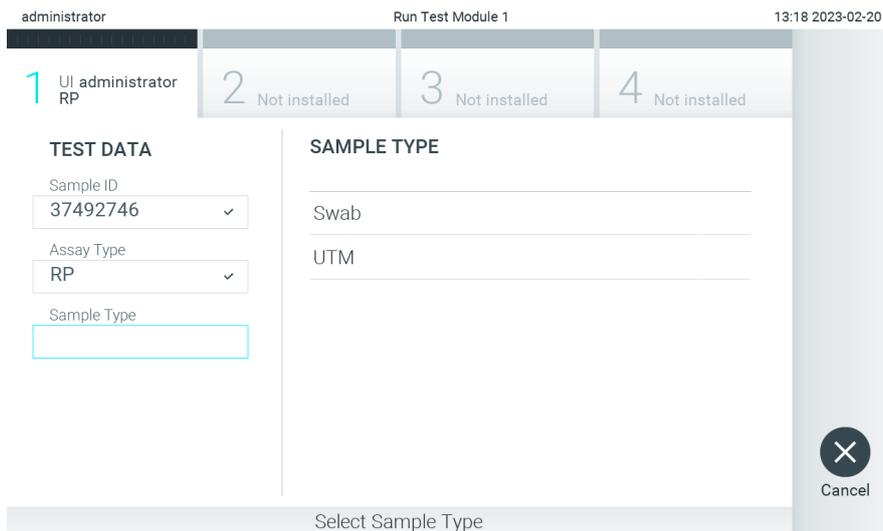

Figure 88. Selecting sample type.
- The Assay Type field will be automatically entered and, if required, an appropriate Sample Type must be manually selected from the list (Figure 88).
- When prompted, scan the sample ID barcode using the bar code reader that is integrated into the Operational Module (Figure 88)